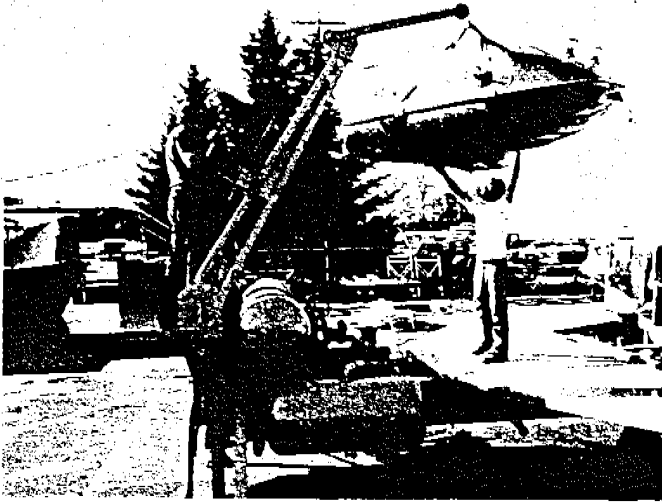

Fig. 39
- d. Unbolt the top car from the rack and lift it with the crane. Swing it around and lower it to the platform. (Fig. 39)